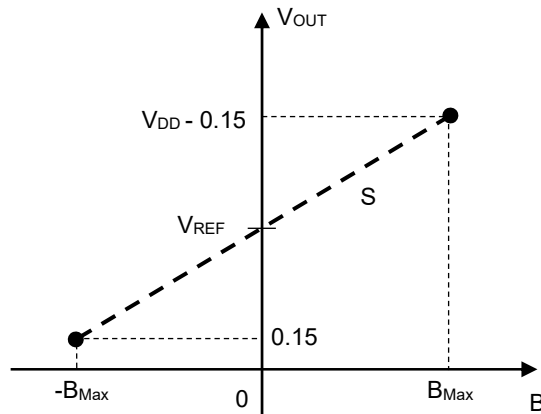

Figure 21
Figure 21 shows the relationship between the magnetic flux density (B) and the output voltage (V_{OUT}).